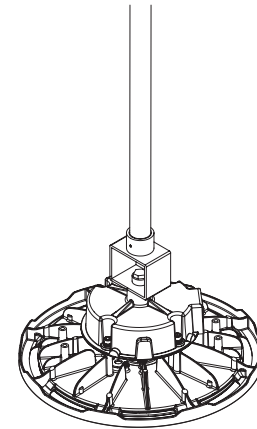

FIG. 6
- Screw the adapter with the fixture onto a pole and secure it with a screw (included with the adapter). (Fig. 6)